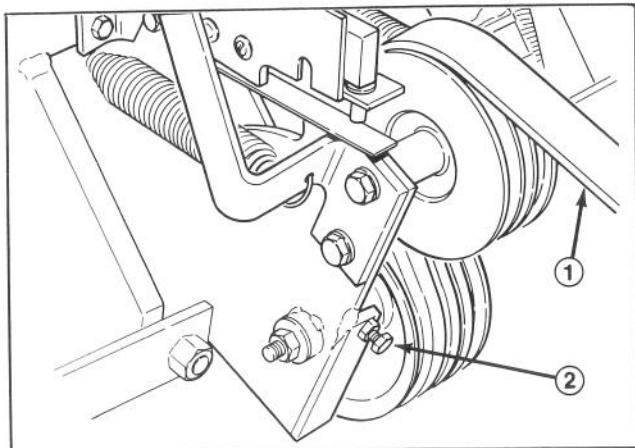

Figure 41
2. Latches (3)
3. If coring head drive belt (Fig. 41) does not properly engage or disengage when entering or exiting the ground, check belt adjustment. Coring head mechanism should begin rotating 1" before tines contact turf.
- C. Loosen adjusting screw jam nut (Fig. 41) on top of idle pulley bracket.
- D. With engine running at idle speed, rotate adjusting screw (Fig. 41) until coring head just barely starts to creep or stops. Then tighten adjusting screw one more turn. Tighten jam nut.